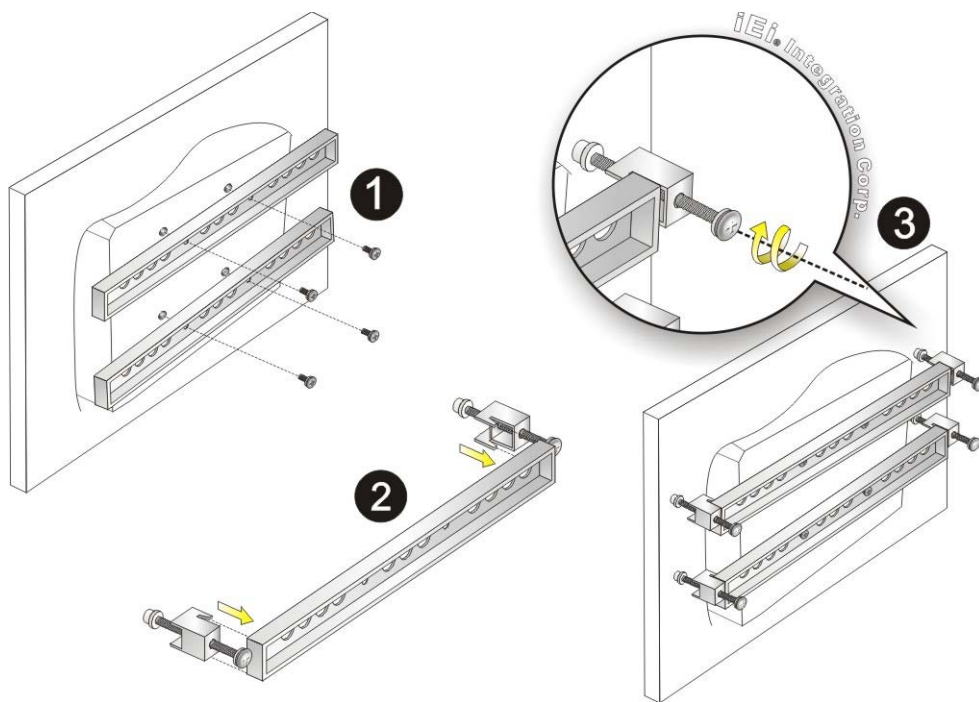

Figure 3-23: Panel Mounting
- Step 5:** Secure the two panel mounting brackets to the rear of the panel PC by inserting the four retention screws into the VESA mounting holes (**Figure 3-23 ①**).
- Step 6:** Insert the panel mounting clamps into the pre-formed holes along the two edges of the panel mounting brackets (**Figure 3-23 ②**). There are a total of 4 panel mounting clamps for AFL-HM55 Series.
- Step 7:** Tighten the screws that pass through the panel mounting clamps until the plastic caps at the front of all the screws are firmly secured to the panel (**Figure 3-23 ③**).